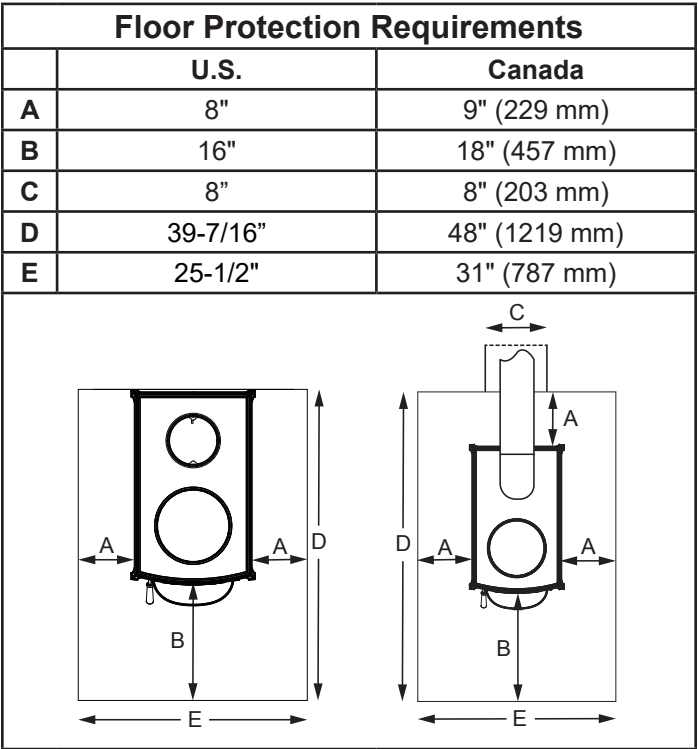

Figure 3.4 - These dimensions are minimum requirements only. Use greater dimensions whenever possible.
U.S. Installations: The floor protector is required under the stove and must extend at least 16” from the front of the stove (B, Figure 3.4), and at least 6” from the sides (A, Figure 3.4) and 0” to the rear. It must also extend under the chimney connector and 2” to either side. (C, Figure 3.4)
In Canada: A noncombustible floor protector is required under the heater. The floor protector must extend 18” (457 mm) to the front (B, Figure 3.4) and 9” (229 mm) from the sides and rear. (A, Figure 3.4)